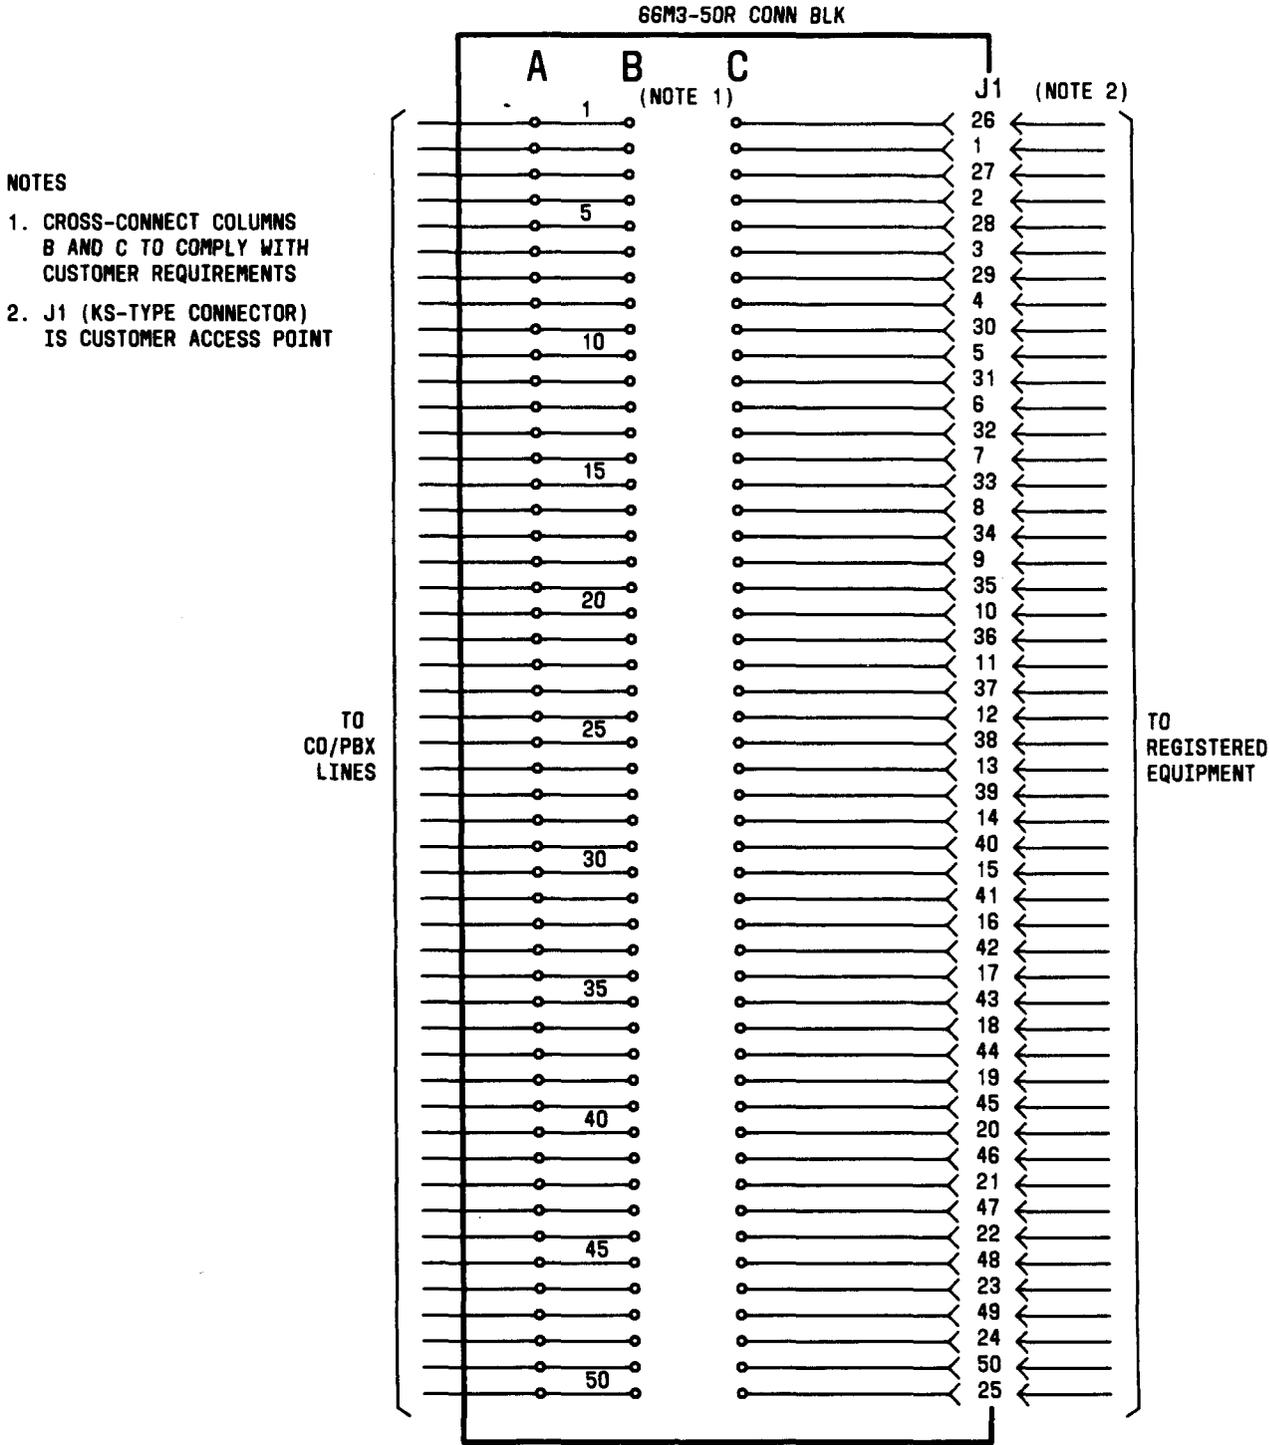

Fig. 2—66M3-50R Connecting Block (MD) Terminal Layout
2.03 The 66M3-50R (MD) and 66M4-50R (MD) connecting blocks (Fig. 2) consist of the following.
- A 66M2-50R connecting block (MD) having three vertical columns of terminals, consisting of 50 single and 50 double quick-connect terminals.
- A 50-contact KS-type connector factory wired to the single column (C) of quick-connect terminals.
3.05 Provide CO/PBX lines by placing appropriate CO/PBX feeder cable, D station or cross-connect wire, to selected column A terminals (Fig. 2 or 3).